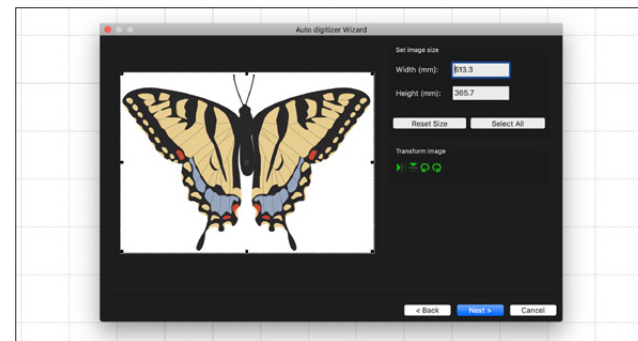

Figure 30
2. A new window will appear, which allows you to select the image size, rotate, or flip the image. Here, you can enter the desired specs and click Next. See Figure 30.